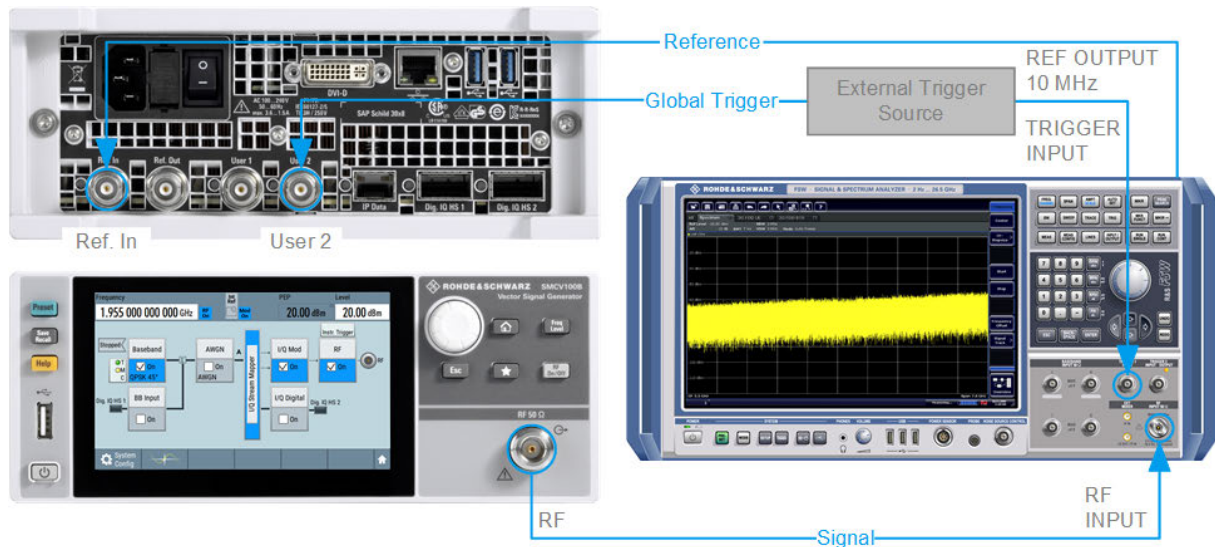

Figure 6-6: Simplified representation of a test setup**
1. Use a suitable cable to connect the external trigger source to the User 2 connector of the R&S SMCV100B. See Figure 6-6.
The Figure 6-6 depicts the location of the connectors and explains the connection as principle. In practice, you would rather "substitute" the analyzer by a DUT, like a base station (BS).